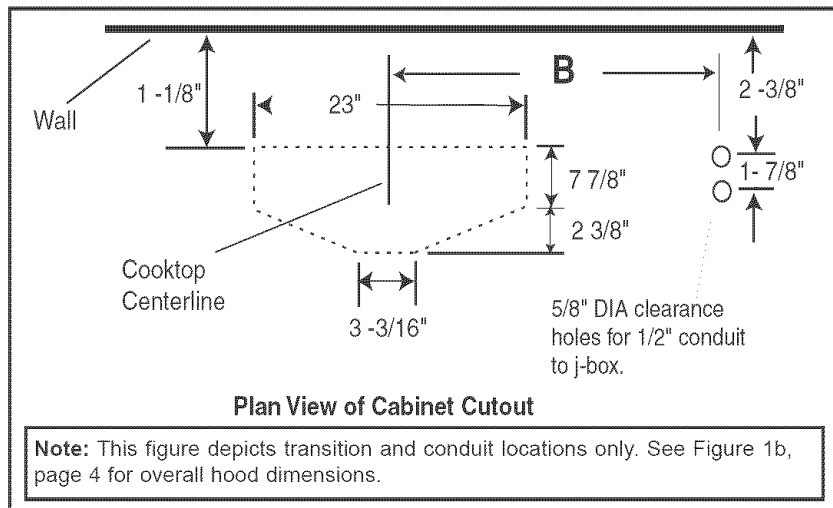

Figure 11: Transition and Conduit Locations
2. If the hood is installed for vertical discharge, use Figure 11 to create clearance holes for passage of the transition and conduit (See dimension B in Figure 11 and in Table).